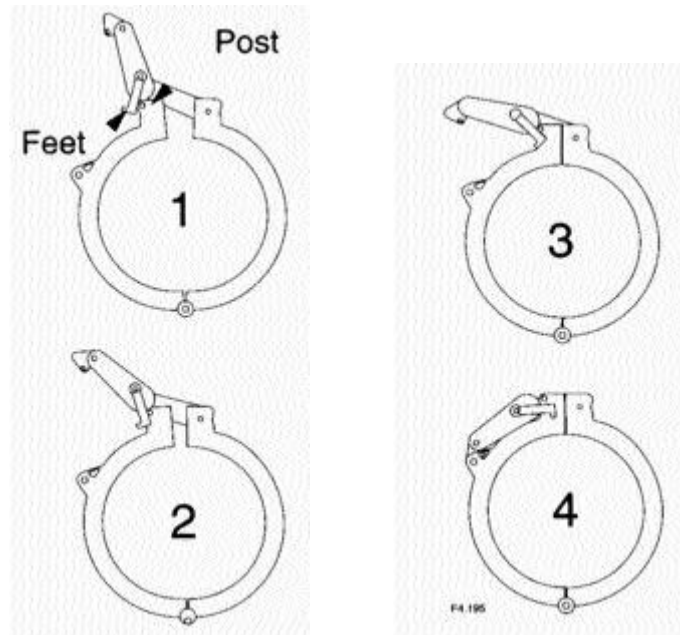

Figure 20 – Install clamp onto closure.
4.28 Install the clamp around the dome/base interface. Position feet of handle in front of the two posts and push down on the handle to pull the two halves of the clamp together (Figure 20). Continue to push the handle down until the small pin on the handle snaps into the triangular hole in the clamp.